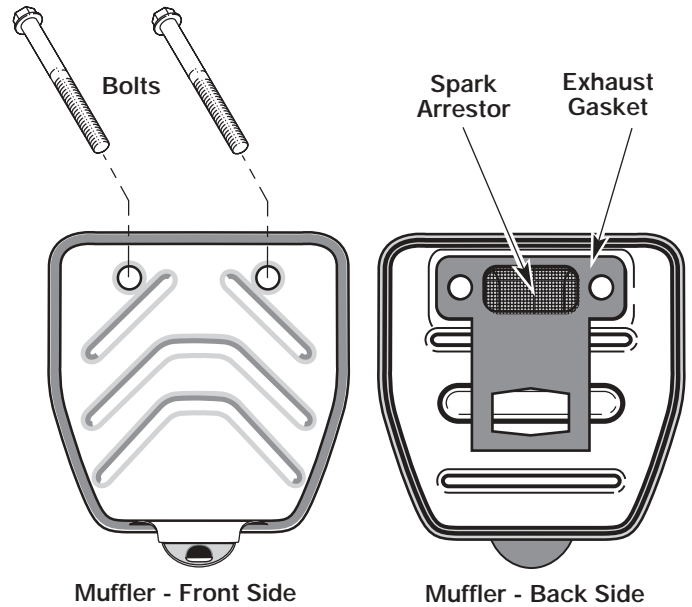

Fig. 24
2. Locate muffler front and the two (2) bolts securing it to the engine (Fig. 24). Remove the two (2) bolts using a flatblade screwdriver or 5/16-inch socket or nut driver. Pull muffler off of the engine.
3. Turn muffler over to the back side and locate the exhaust gasket. Remove the muffler gasket from the muffler (Fig. 24).
7. Place the exhaust gasket against muffler's back side. Align the gasket bolt holes with the bolt holes in the muffler. While holding exhaust gasket in place, insert the bolts into the muffler's front side (Fig. 24).